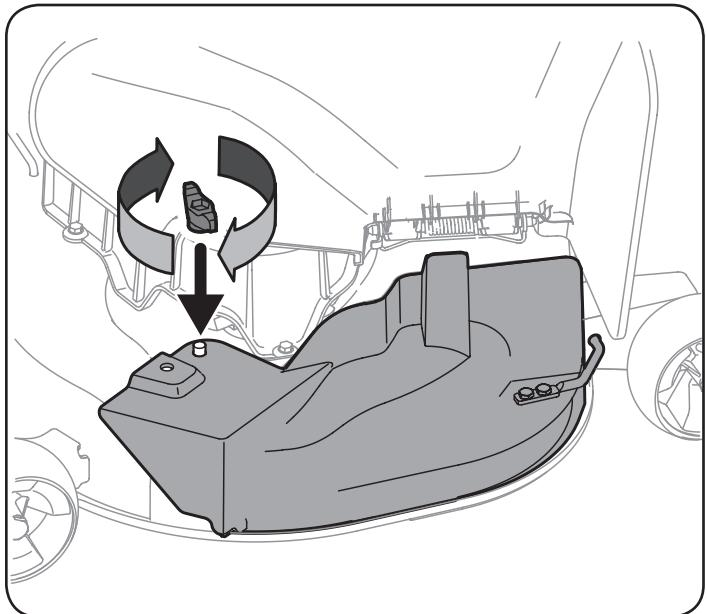

Figure 7
- Secure the mulch plug in place with the wing knob. See Figure 7.